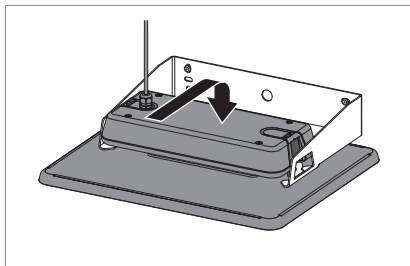

Fig. 6: Hanging the luminaire into the wall holder.
- ▶ Hang the luminaire into the wall holder, see Fig. 6.